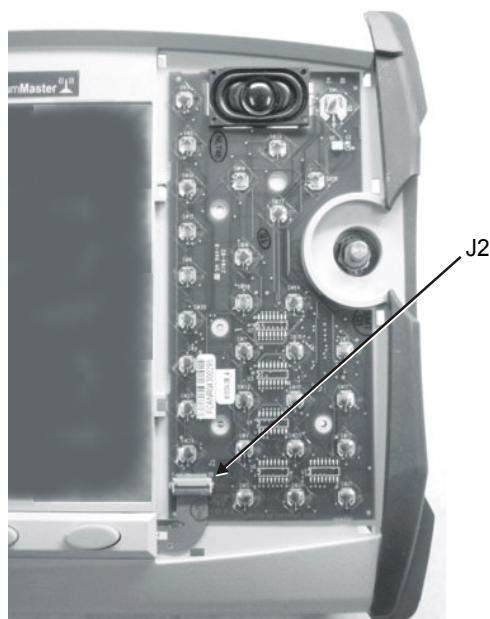

Figure 7-7. Main Numeric Keypad Connector J2
1. Disconnect the function keypad PCB from connector J2 of the main numeric keypad PCB by carefully lifting the locking tab on connector J2 to release the function keypad PCB (Figure 7-7).